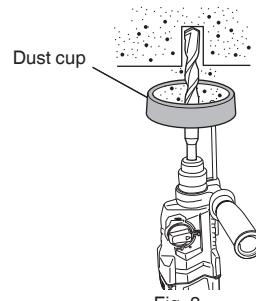
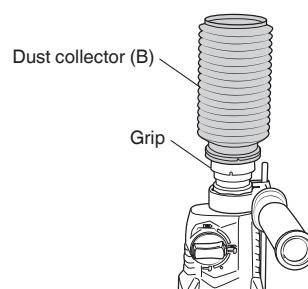

Fig. 3
Fig. 4
5. Installation of dust cup or dust collector (B) (Optional accessories) (Fig. 3, Fig. 4)
Use the dust cup by attaching to the drill bit as shown in Fig. 3.
When using dust collector (B), insert dust collector (B) from the tip of the bit and allow it to cover the grip (Fig. 4).